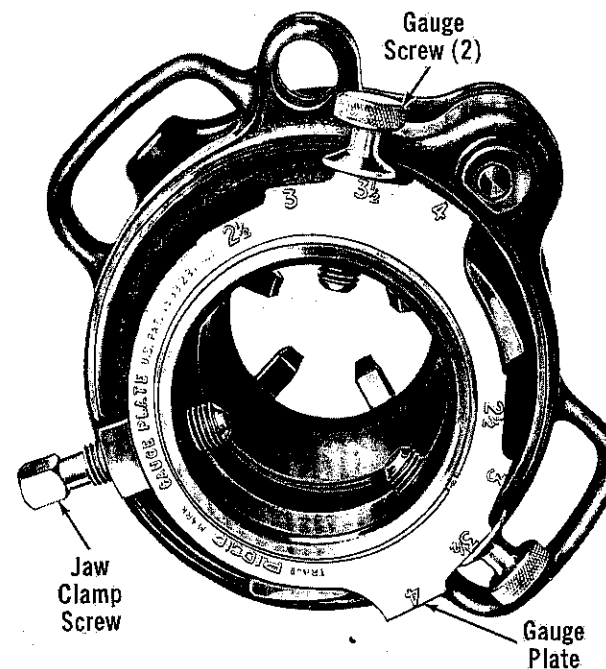

Figure 17. No. 4PJ Geared Threader with Workholder Up.
9. **4PJ only** - Loosen Workholder Clamp Screw (Fig. 17) and remove pipe.
6. **4PJ only** - Release Foot Switch just before Die Head begins to press on Pressure Ring (Fig. 17) at base of Pinion Sleeve.
Workholder (Pipe Size) Adjustment Procedure (Fig. 17)